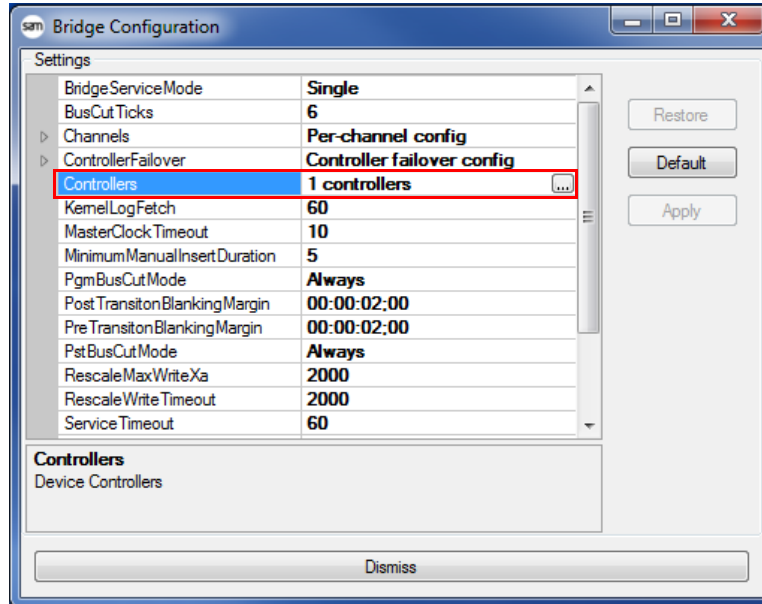

Figure 430 Bridge Configuration
- b) The Bridge Configuration window opens (Figure 430).